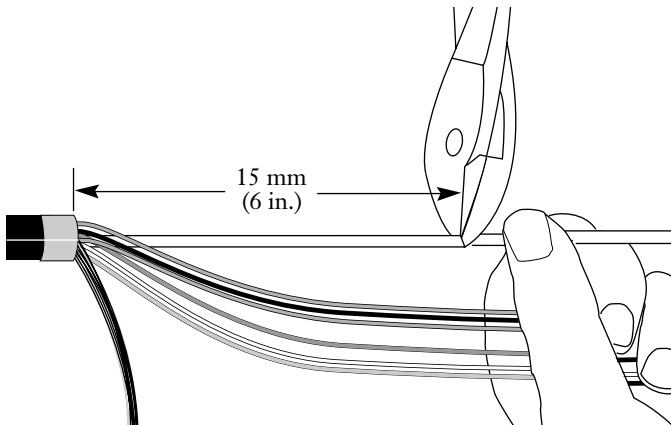

Figure 30
**7.10** Use side cutters to cut the dielectric central member to a length of 15 mm (6 in.) (Figure 30).